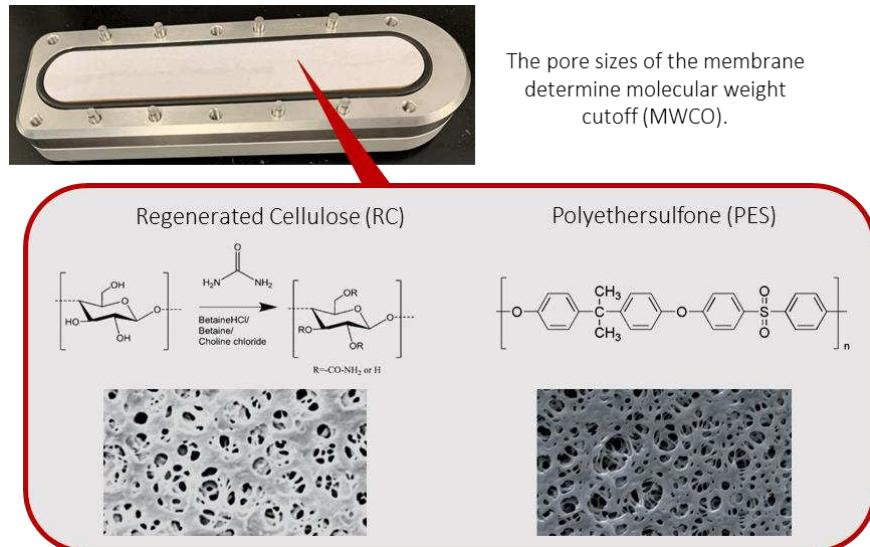

Figure 42. Microscopic view of regenerated cellulose and polyethersulfone membrane materials.
The two most common types of membrane material are regenerated cellulose (RC) and polyethersulfone (PES) as shown in Figure 42. Selecting the membrane is an important aspect for method development and plays a critical role in the performance of FFF-MALS separations. Unlike other chromatography methods where the stationary phase and its interaction with the sample are key to separations, FFF-MALS requires minimal channel interaction so that separation is purely based on hydrodynamic size and diffusion coefficients.